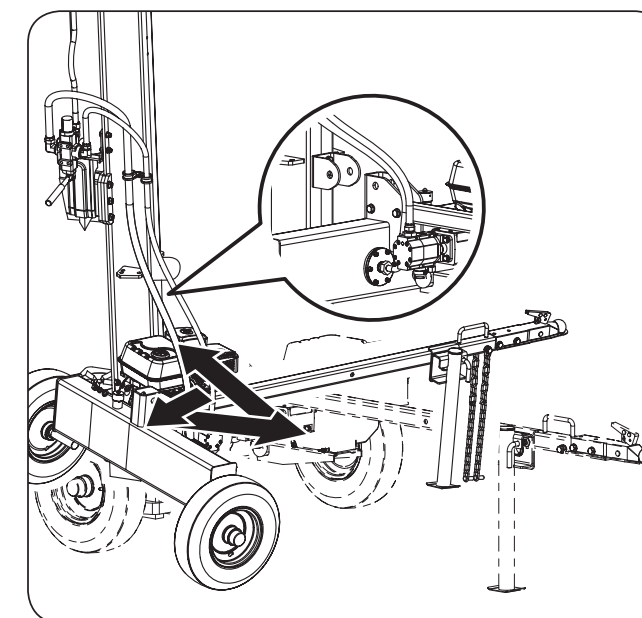

Figure 7a
- Make sure a helper holds on to the beam to keep it from falling. Reposition the beam and reservoir so the back of the tank is facing the vertical beam as shown in Figure 7a.